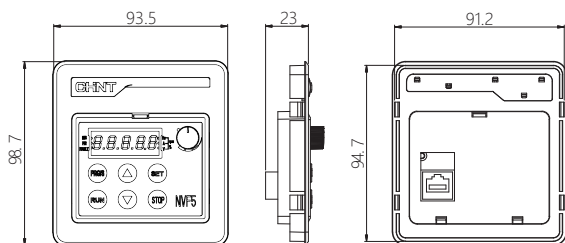
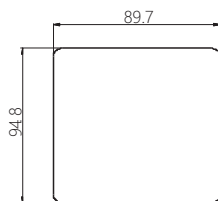

Figure 6-5 Outline dimensions of support plate
Figure 6-6 Perforating dimensions for cabinet door
- b) For second option, the display is mounted on the support plate. Perforate according to the dimensions of the support plate, see the dimensions in Figure 6-5 and Figure 6-6: